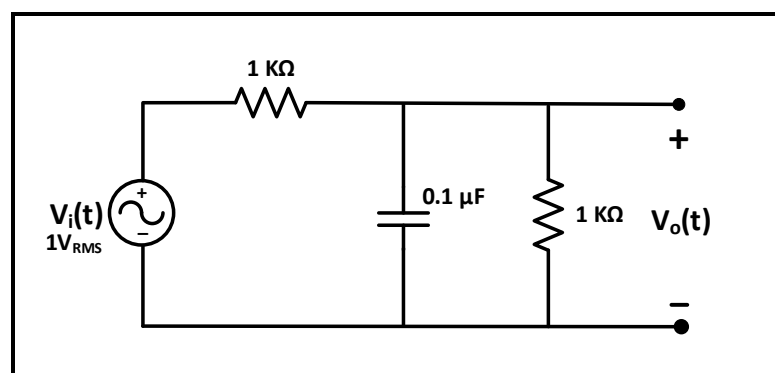

Figure 10.14
1. Connect the circuit of Figure 10.14, with a sinusoidal input voltage at 1 V_{RMS}.
3. Repeat steps (3-4) in part A for the circuit of figure 10.14 but change frequency according to Table 10.2 **staying in the range (30 Hz-200 kHz)**, and record results in the same table.